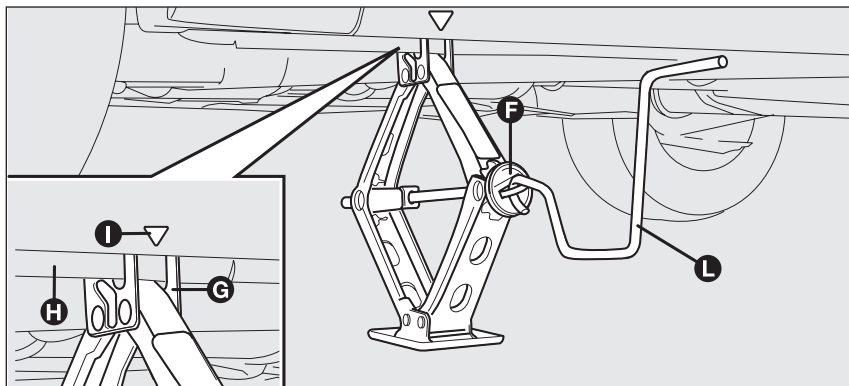

fig. 14
- operate the device **F**-fig. 14 to expand the jack, until the groove **G** on the upper part of the jack is correctly inserted on the lower edge **H** of the body at indication **I** (at approximately 60 cm from the front wheel centre or 80 cm from the rear wheel centre);
- fit the handle **L**-fig. 14 to operate the jack and lift the car until the wheel to be changed is several centimetres off the ground;
- turn the jack handle **L**-fig. 14 to lower the car and remove the jack;